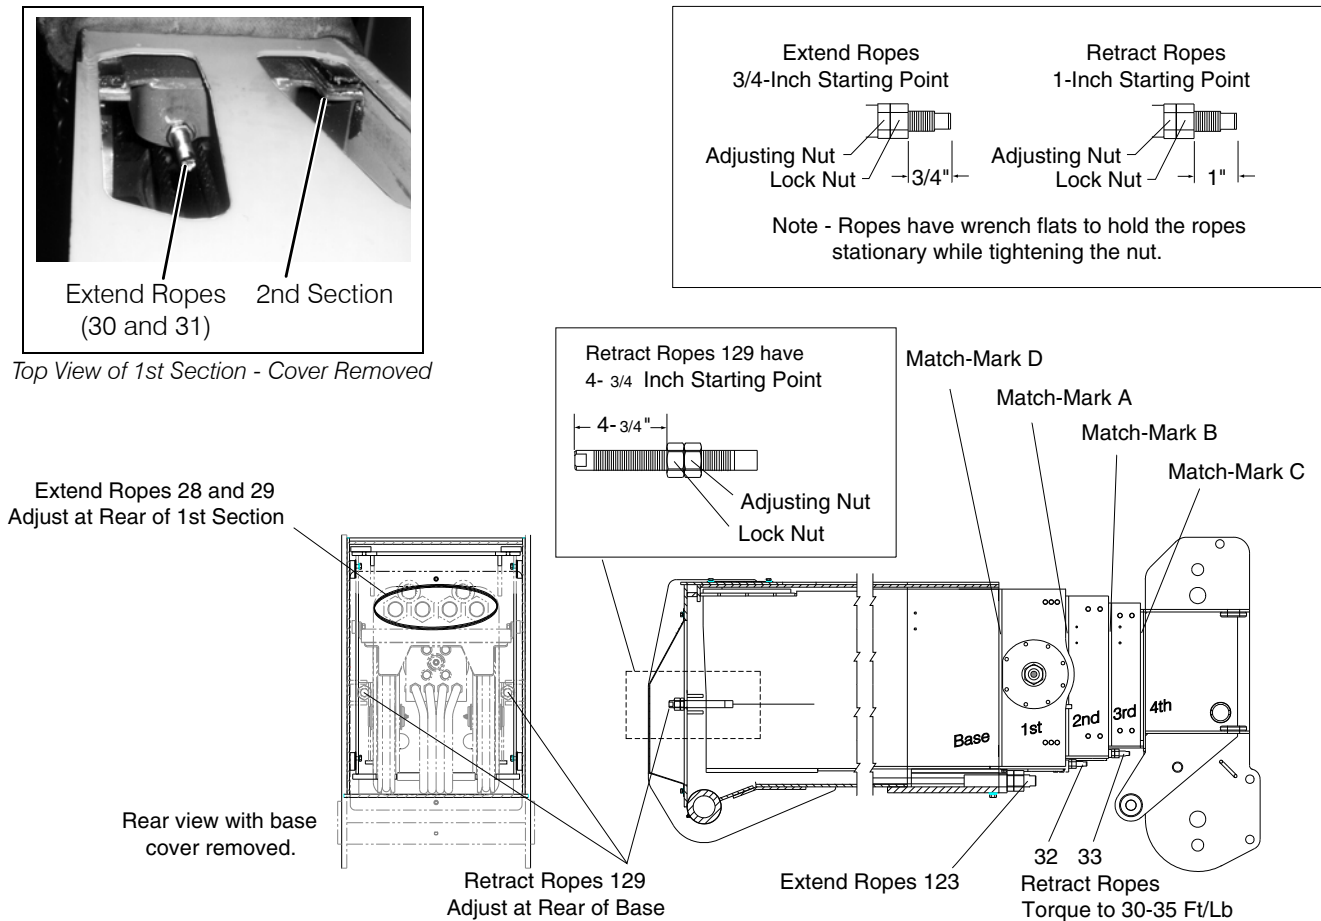

Figure 6-15 Typical Five-Section Boom Ropes and Match Marks
Refer to Figure 6-15.
2. Loosen the adjusting nut and the lock nut on each extend rope (28 and 29) and on retract ropes (33) so the ropes are slack.
4. Tighten the adjusting nut on each retract rope (32) until the distance from the end of each rope to the outside edge of the adjusting nut is one inch.
7. Extend the boom until ropes are accessible through cut-out on top of boom, see Figure 6-15, and stop engine. Tighten the adjusting nut on each extend rope (28 through 31) until the distance from the end of each rope to the outside edge of the adjusting nut is 3/4 inch.
10. Torque the adjusting nut on both retract ropes (33) to 30-35 ft/lb.
- A. Extend the boom until ropes are accessible through cut-out on top of boom, see Figure 6-15, and stop engine.
- 1. Loosen the adjusting nut on each retract rope (33) the correct number of turns for each 1/8 inch of remaining stroke.
- 2. Tighten the adjusting nut on each retract rope (33) the correct number of turns for each 1/8 inch of remaining stroke.
15. Recheck the torque of the adjusting nut for retract ropes (33).
16. Extend the boom until ropes are accessible through cut-out on top of boom, see Figure 6-15, stop engine. Looking through the access holes in the first section, visually check the tension of extend ropes (28 and 29). Tighten the adjusting nut on the loosest ropes until all four ropes are tensioned equally.
17. Torque the adjusting nut on each retract rope (32) to 30-35 ft/lb.
- 1. Loosen the adjusting nut on each retract rope (32) the correct number of turns for each 1/8 inch of remaining stroke.
**Important** *The starting point for rope 129 is 4-3/4 inches from the plate. Use only full size nut for both adjusting and locking nut, see Figure 6-15.*